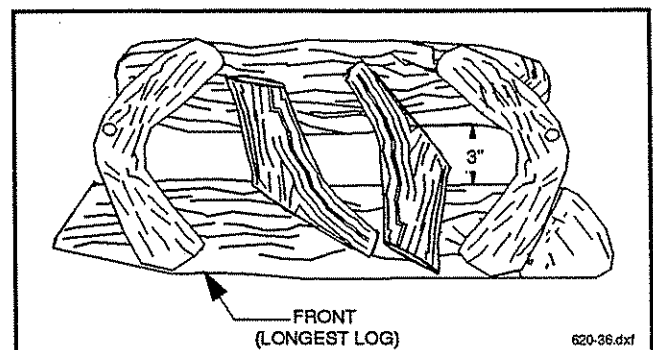

Fig. 36. Gas log positioning.
6). Unpack decorative logs. There are six (6) logs in the log sets. The longest log should be placed between the front and back leg of the burner tube. The second longest log should be placed behind the burner tube on the grate. The four (4) top logs should be placed on notches of bottom logs approximately as shown in Fig. 36. Slight adjustment may be required to keep logs away from flame pattern.